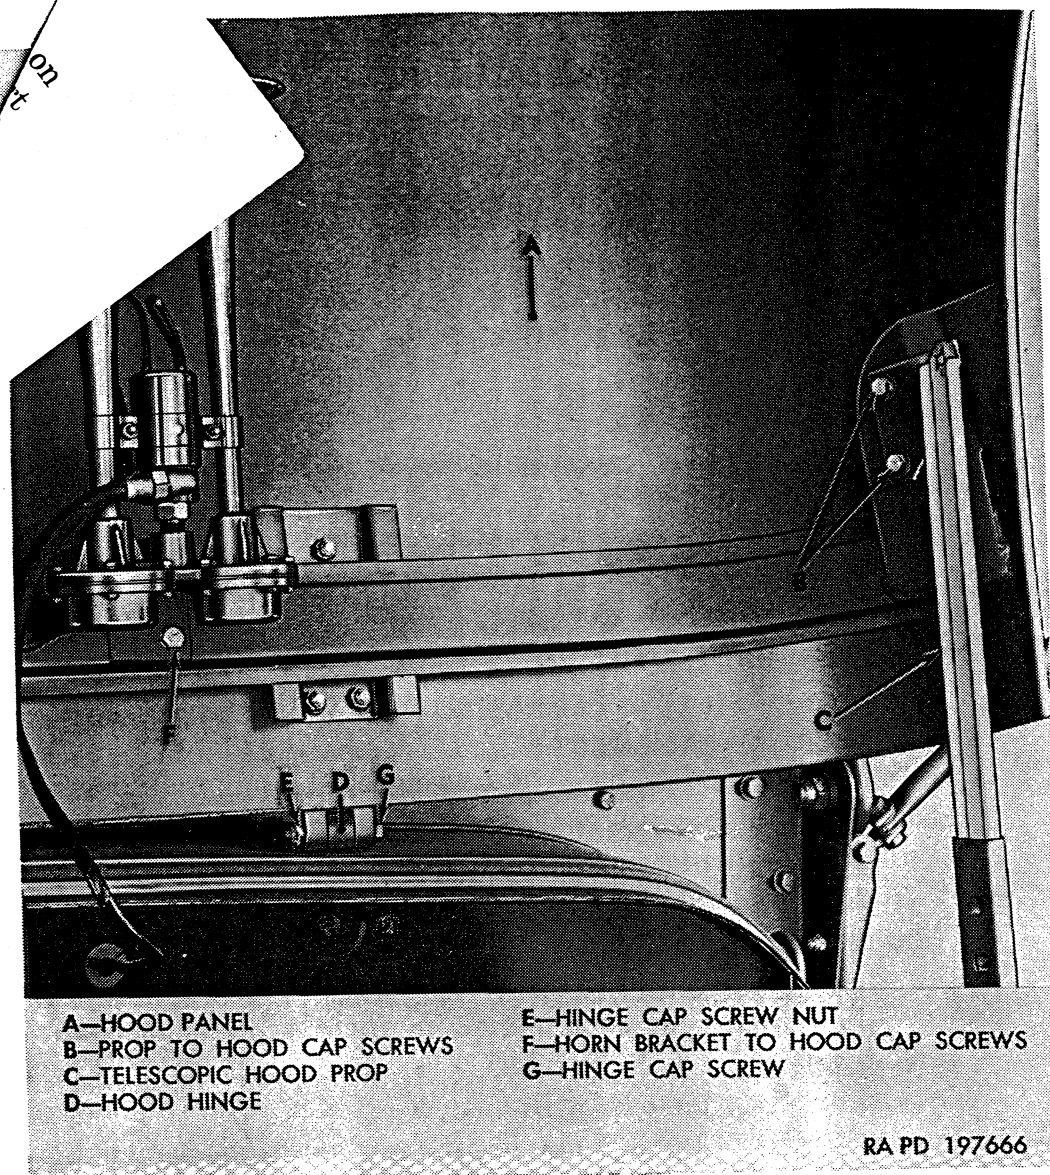

Figure 328. Engine hood installed (early model shown).
Note. The key letters noted in parentheses are in figure 328, except where otherwise indicated.
(1) *Removal.* Raise and support hood panel with a stick; then remove dowl extension panel (par. 304d(1)). Remove two cap screws (B, fig. 328) attaching hood support prop upper bracket to hood. Remove two cap screws attaching prop lower slide bracket to cab cowl. Remove prop assembly.
(2) *Installation.* Place prop assembly in position on vehicle; then install two $\frac{5}{16}$ -24 x $\frac{3}{4}$ cap screws and $\frac{5}{16}$ -24 nuts attaching hood prop lower slide bracket and cowl extension panel support to cab cowl. Install two $\frac{1}{4}$ -28 x $\frac{5}{8}$ prop to hood cap screws (B, fig. 328) with external-teeth lockwashers which attach hood prop upper bracket to hood panel. Install cowl extension panel (par. 304d(2)).